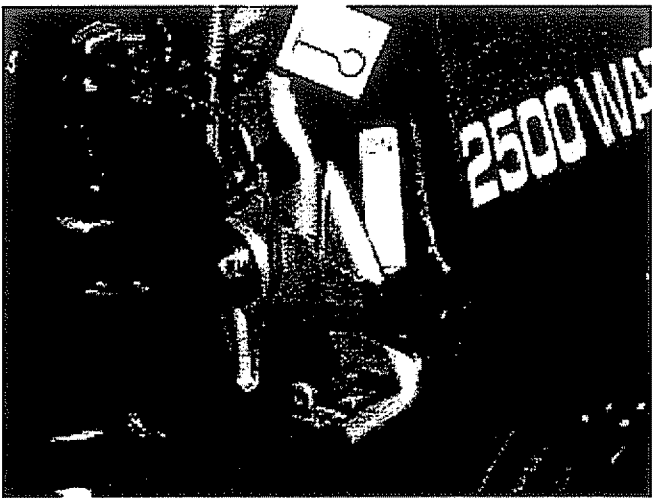

Figure-5
- Set ON/OFF LEVER to ON (Figure-5).